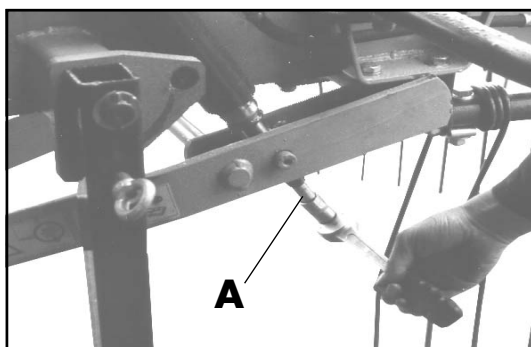
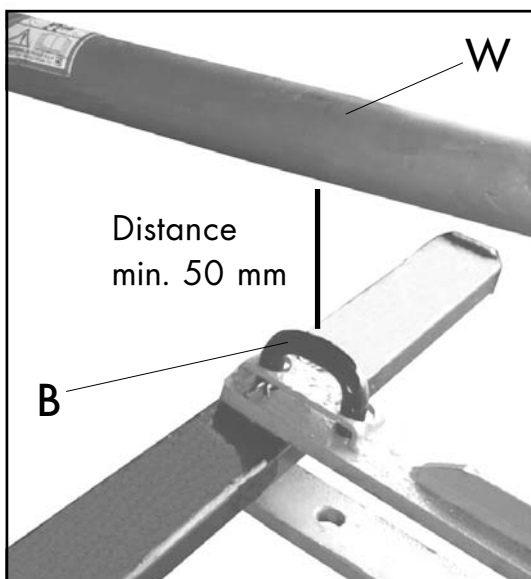

Figure 4-8
Figure 4-9
The drawbar should always be adjusted so that the implement is slightly tilted forward. The adjustment is carried out by using the adjusting spindle "A" (figure 4-8). Take care that the minimum distance between bolt "B" and cardan shaft "W" never falls below 50 mm (figure 4-9).
- When mounting or dismounting the implement without the hydraulic bottom link, the drawbar is relieved by using the adjusting spindle "A" (figure 4-8)